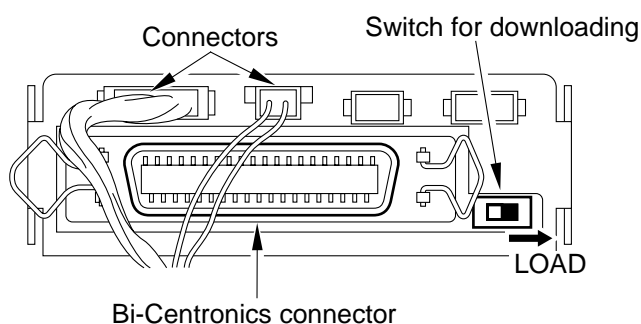

Figure 13-705
- 3) Slide the switch shown in Figure 13-705 to LOAD position, and disconnect the two connectors.